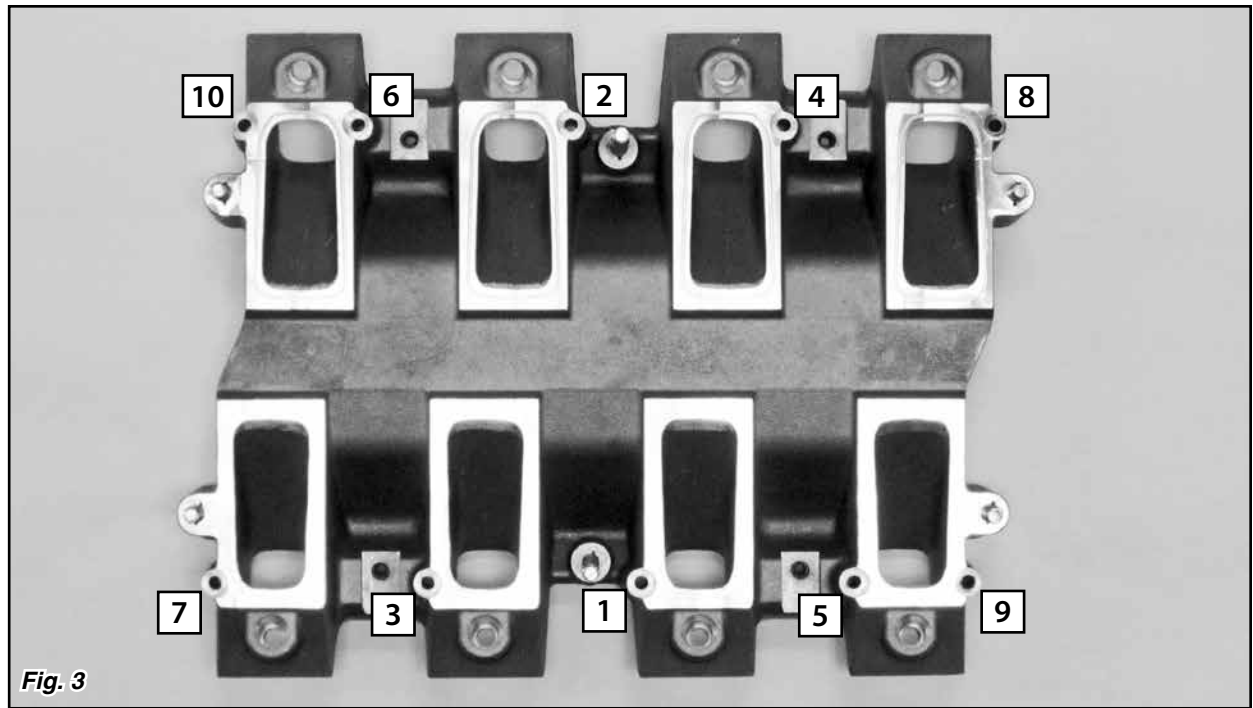

Fig. 3
Step 3: Apply a drop or two of engine oil to the threads of the lower manifold mounting bolts. Install the mounting bolts and washers through the lower manifold and thread them into the cylinder heads. Following the tightening sequence diagram in **Fig. 3**, snug the bolts down lightly, just until the O-rings are slightly compressed.
Step 4: Torque the lower manifold bolts in two steps. Following the sequence in **Fig. 3**, tighten all of the mounting bolts to 50 lb.-in. (4.2 lb.-ft.). Then, follow the sequence in **Fig. 3** again to tighten the bolts to 106 lb.-in. (8.8 lb.-ft.).